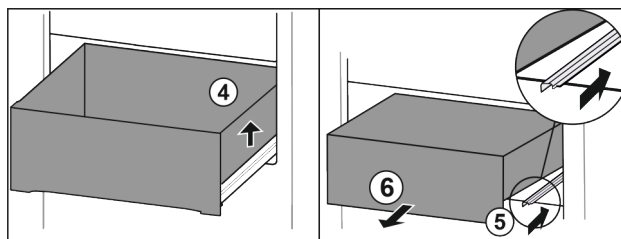

Fig. 87
- ▶ Lift drawer on the right. Fig. 87 (4)
- ▶ Slide in right rail. Fig. 87 (5)
- ▶ Remove drawer to the front. Fig. 87 (6)